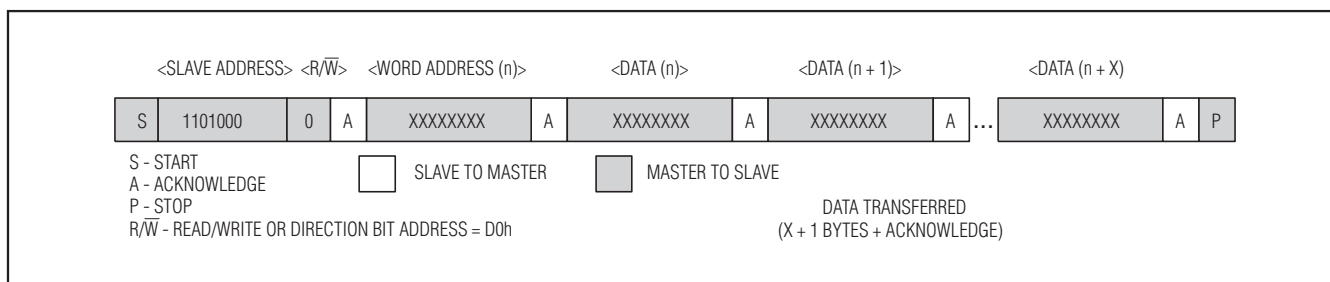

Figure 3. Data Write—RTC Slave Receiver Mode
1) Slave receiver mode (DS32B35/DS32C35 write mode): Serial data and clock are received through SDA and SCL. After each byte is received an acknowledge bit is transmitted. START and STOP conditions are recognized as the beginning and end of a serial transfer. Address recognition is performed by hardware after reception of the slave address and direction bit (see Figures 3, 5, and 7). The slave address byte is the first byte received after the master generates the START condition. The slave address byte contains one of the 7-bit device addresses. The slave address is 1101000 for the RTC. For the DS32B35 FRAM, the first four bits are 1010, and the next three bits select one of eight blocks of data (see Table 2). For the DS32C35 FRAM, the first seven bits are 1010000. Each slave address is followed by the direction bit (R/\bar{W}), which is zero for a write. After receiving and decoding the slave address byte, the device outputs an acknowledge on the SDA line. After the device acknowledges the slave address and write bit, the master transmits a register address to the device. For the DS32C35, the master transmits two bytes for the register address information. This sets the register pointer on the device. After setting the register address, the master then transmits zero or more bytes of data with the device acknowledging each byte received. The master generates a STOP condition to terminate the data write.